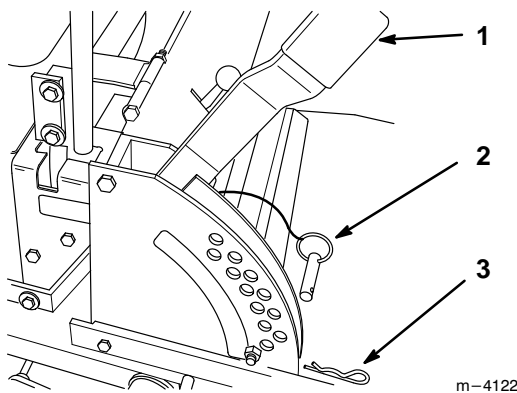

Figure 11
1. Raise the height-of-cut lever to the transport position (also the 5" (127 mm) cutting height position) (Fig. 11).
2. To adjust, remove hairpin cotter and clevis pin from height-of-cut bracket (Fig. 11).
3. Select hole in height-of-cut bracket corresponding to the height-of-cut desired. Lift handle to transport position, insert clevis pin (Fig. 11).
4. Secure clevis pin with hairpin cotter (Fig. 11).